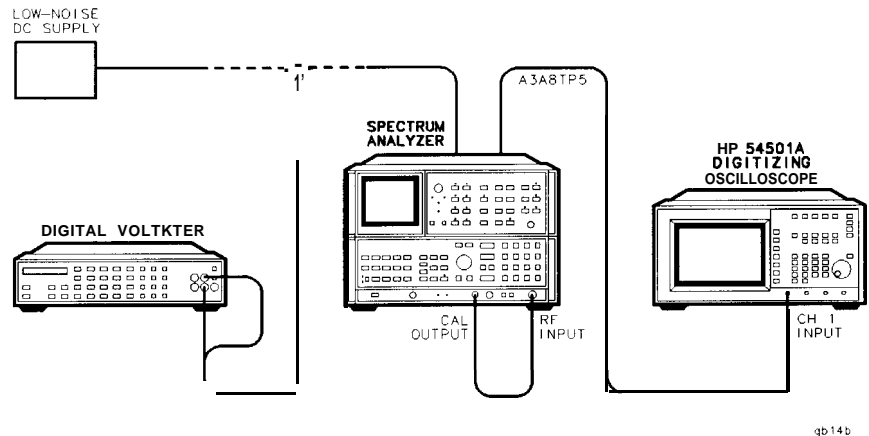

Figure 3-85. Analog-To-Digital Converter Adjustments Setup
1. Position instrument upright as shown in Figure 3-85 and remove top cover.